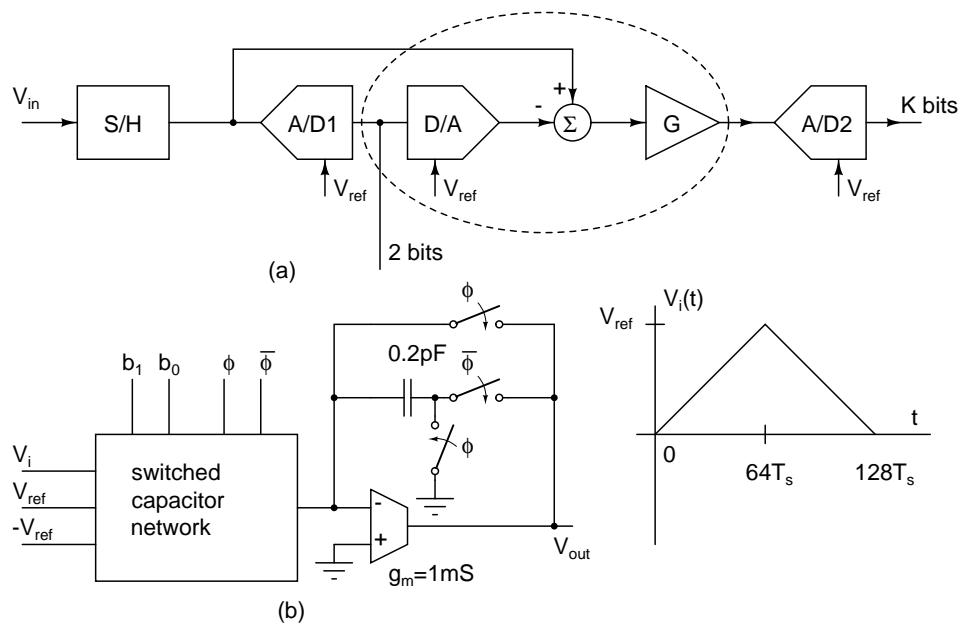

Figure 3:
4. The circuit in Fig. 3(b) is used for the DAC and residue amplifier in the pipelined A/D converter of Fig. 3(a). The first stage has 2 bits. Complete the design of the residue amplifier and simulate it with the input waveform shown. The sampling rate is 100 MHz. For the A/D outputs $b_{1,0}$, you can assume ideal waveforms corresponding to V_{in} .